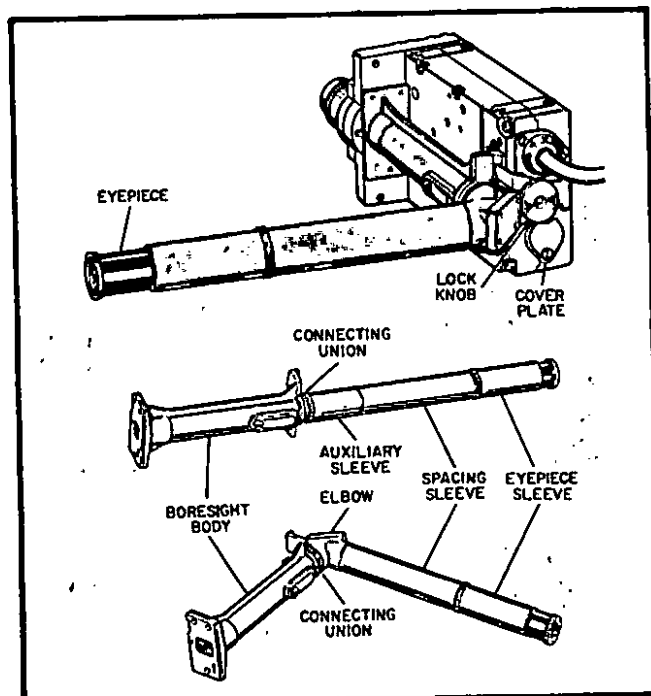

Figure 1-8. Assembling and Mounting the Boresight
1-31. The boresighting components can be assembled either for angular viewing or straight-line viewing as shown in figure 1-8. The procedure for boresighting is as follows:
- a. Clamp boresight to camera body with lock knob (figure 1-8) and open lens diaphragm to f/2.8.